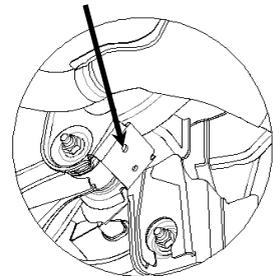

Figure 3
- Remove the existing inner tailpipe hanger 8mm bolt, and replace with supplied 8mm bolt (item 1). Both sides. Tighten bolt to specification. Hang 1/2" flat washers (2 each side) over weld nut on 8mm bolt. Return bolt/s to owner.
- Install forward hitch bracket "A" or "B" as shown. Slide "handle-nut" (item 10) behind the vehicle cross-member on the driver's side, using the 1/2-13 X 1.5 bolt (item 8) and attach the forward bracket that's called out for the vehicle. Hand tighten only.
- On Buick LaCrosse and Cadillac XTS enlarge rearward hole on vehicle suspension mount to accept a 1/2 bolt. See Figure 3
- Raise rearward section of the hitch into place, over 8mm bolts (installed in step 1) sandwiching the 1/2" flat washers between exhaust hanger and hitch bracket. Attach the 3/8" conical washers & M8 hex nuts (item 3 & 4) to bolts. Hand tighten only.
- Install the 1/2" carriage bolts (4) into the plate on the hitch's support plate.
- Attach the opposite end of the center section to the forward bracket with the 1/2" bolt & 1/2" conical washer (item 9 & 3) install from the bottom. Attach the 1/2" conical washer and 1/2" hex nut. The center section is designed to pivot, for better installation.